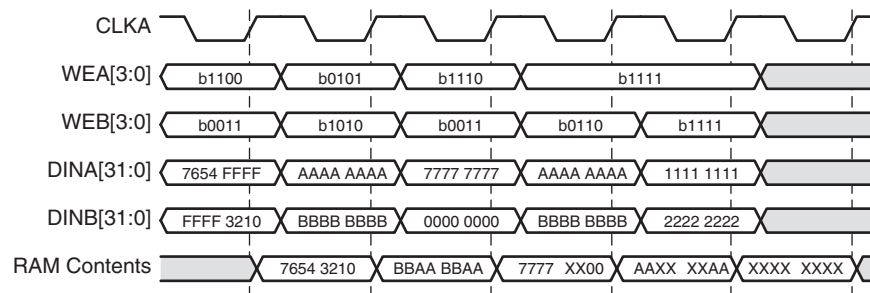

Figure 3-15: Write-Write Collision Example
- **Using Byte-Writes:** When using byte-writes, memory contents are not corrupted when separate bytes are written in the same data word. RAM contents are corrupted only when both ports attempt to Write the same byte. Figure 3-15 illustrates this case. Assume $addr_a = addr_b = 0$.